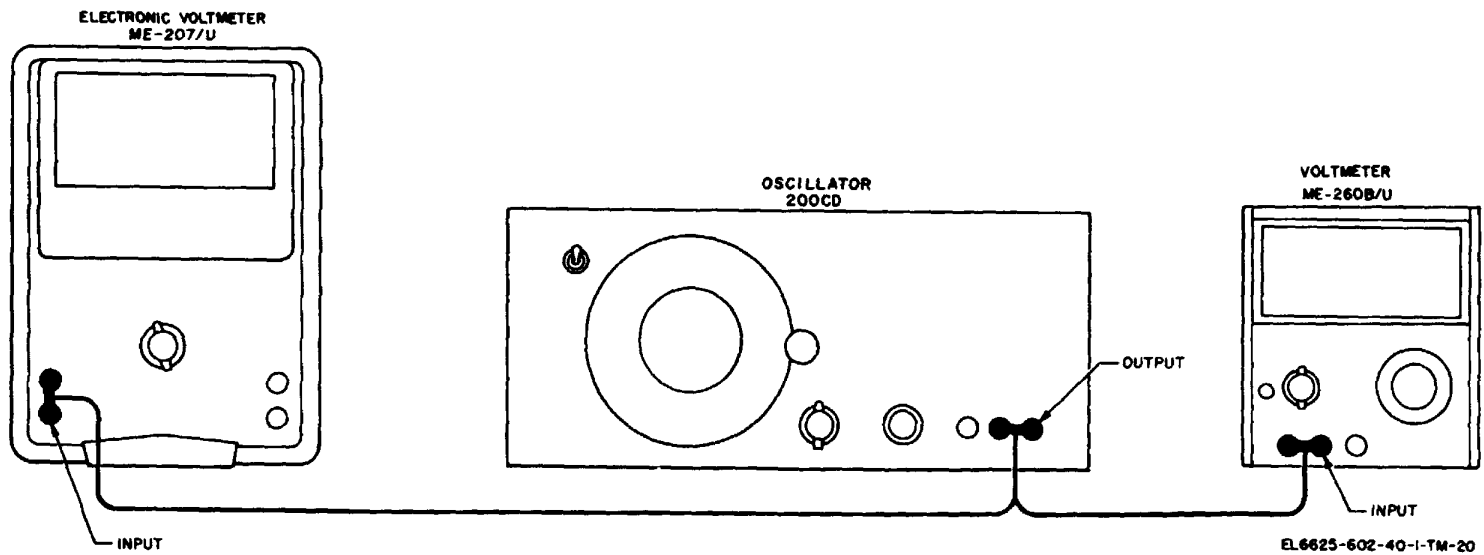

Figure 4-10. Voltmeter, Electronic ME-260B/U 30-volt response calibration connections
(4) Connect the oscillator to the ME-207/U and to the voltmeter (fig. 4-10).
(5) Adjust the oscillator amplitude control until the voltmeter meter indicates 20 volts. Note the indication on the ME-207/U (reference level).
(6) Adjust the oscillator output to 300 kc.
(7) Adjust the oscillator amplitude until the ME-207/U indicates the reference level obtained in (5) above.